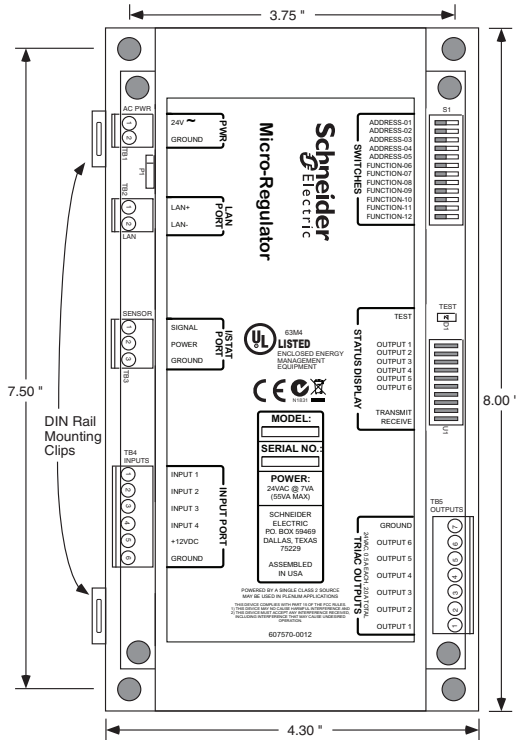

Figure 1. MR-HP (Covered)
1. Check the mounting location for the MR-HP. The available area must measure at least 4.3" x 8" (11.0 x 20.3 cm) and should be in a moisture free container away from any large electrical devices. The screw holes are 3.75" x 7.5" (9.5 x 19.1 cm) as shown in Figure 1, and will require phillips or slotted pan head screws.